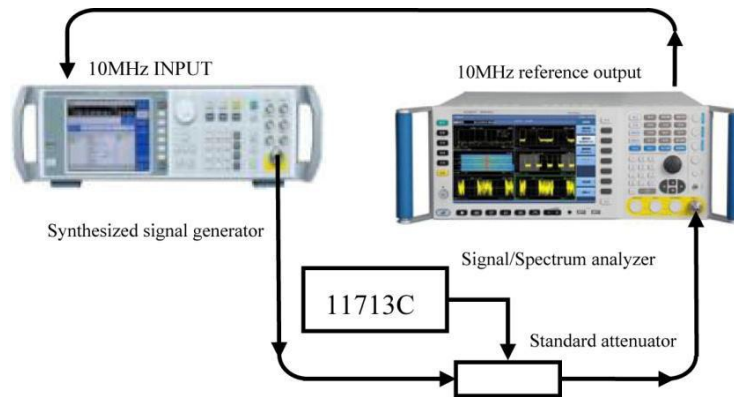

Fig. 8.12 Schematic diagram of reference level switching error
- 1) Connect the instrument as shown in Fig. 8.12, reset the S3503 analyzer and set it to provide frequency reference for the signal generator. Set the frequency of the signal generator as 30.02 MHz and the output amplitude as -3 dBm.
- 1) Connect the instrument as shown in Fig. 8.12, reset the S3503 analyzer and set it to provide frequency reference for the signal generator. Set the frequency of the signal generator as 30.02 MHz and the output amplitude as 0 dBm.